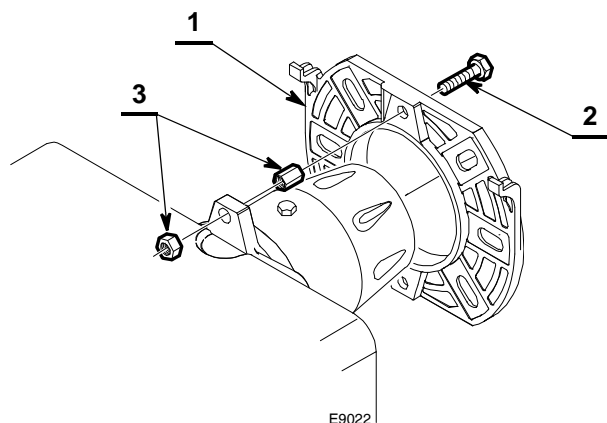

Fig. 6
- Put on the flange 1)(Fig. 6) the screw 2) and two nuts 3).